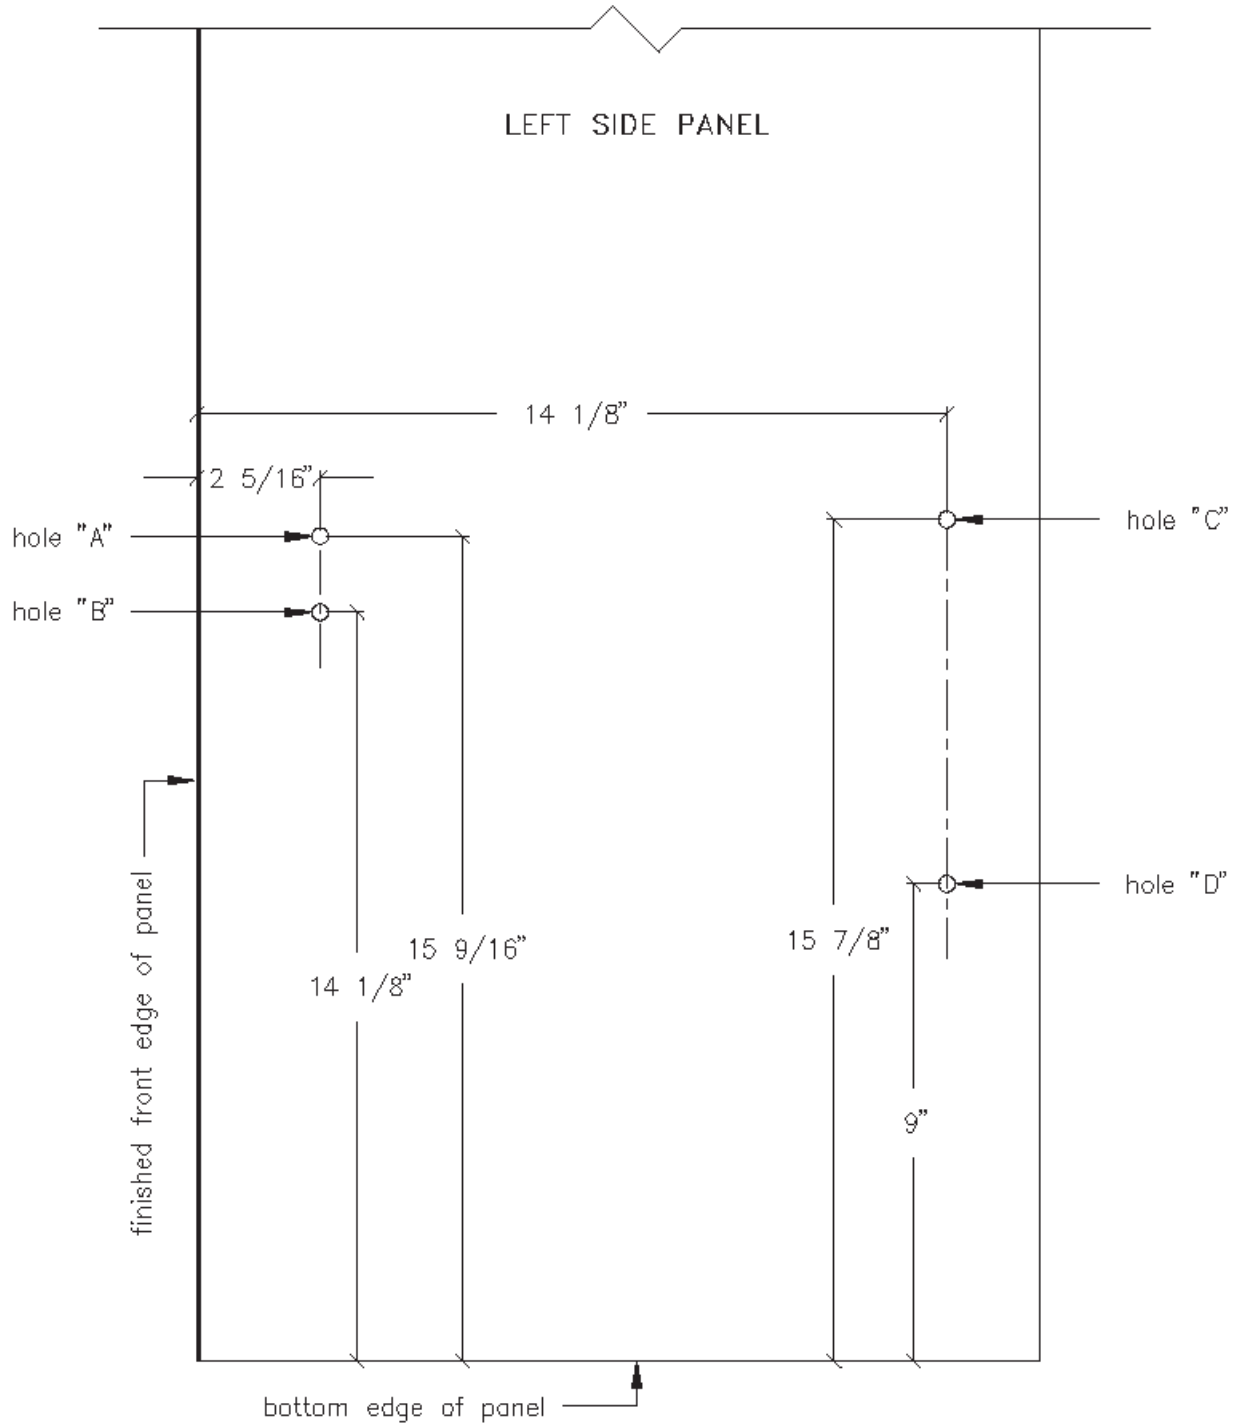

Figure 2. Laying out the Lift Mechanism mounting holes. Note that horizontal measurements are taken from the finished front edge.
- Accurately mark the Lift Mechanism mounting holes on the inside of each SIDE PANEL. See **Figure 2**, for the layout of these holes. When drilling the holes, first drill a small pilot hole, being careful to keep the bit perpendicular to the panel, then drill the final hole with a 5/16" bit. Countersink (5/8" diameter) each hole on the outside of the panels, just deep enough for the head of a 5/16" x 1 1/4" flathead slot machine screw to sit flush with the surface. These screws may be sanded and painted before insertion.